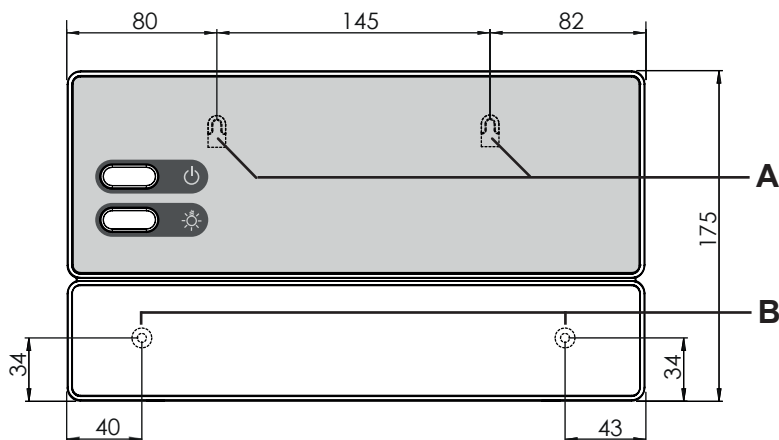

Fig. 2 Position of the attachment device and the installation holes (dimensions in mm)
1. Screw two cross-head screws (16 mm) into the wall of the sauna at a height of approx. 1.70 m and leaving a protruding length of 7 mm. The two screws must be placed at a distance of 145 mm from each other (see **Fig. 2**).
3. Fasten the sauna control unit onto the cross-head screws using the attachment device **A** as an aid (see **Fig. 2**).
4. Screw two cross-head screws (16 mm) into the lower fastening holes **B** (see **Fig. 2**).